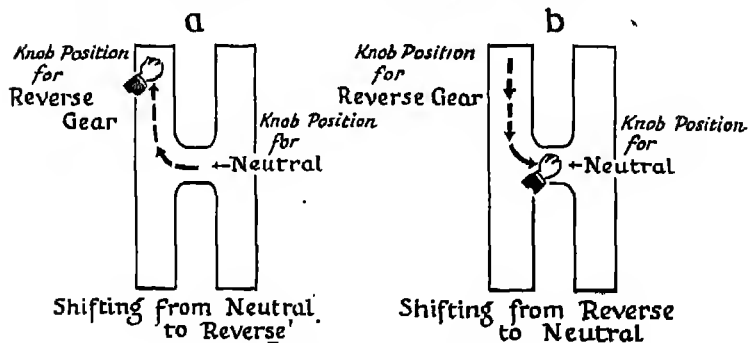

FIG. 176. Reverse gear is used in backing the car.
- b. With palm up, raise the gear-shifting lever toward the steering wheel. Then press it forward into reverse gear, following the direction shown in Fig. 176 (a).
- d. Shift gears to neutral, following the direction shown in Fig. 176 (b).